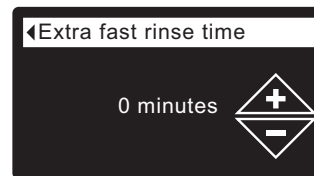

FIG. 78
- 8d. **Extra fast rinse time:** The fast rinse time during regeneration is determined by the electronic controller. However, if you experience salty tasting water after regeneration, you may want to increase it. Press the UP (▲) button to add minutes, up to 15, of extra fast rinse time (See Figure 78).